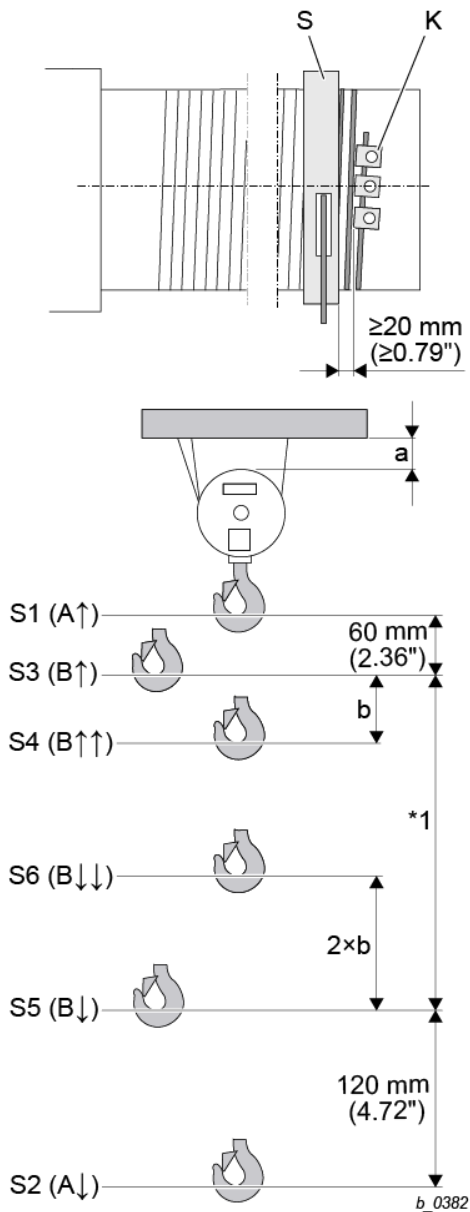

Fig. 79
8. Minimum clearance between rope guide (S) and clamping claws (K) for rope anchorage = **0.79 in**, see Fig. 79, if necessary reset hoist limit switch (see page 72, section 7.10.6 **“Setting hoist limit switch”**).